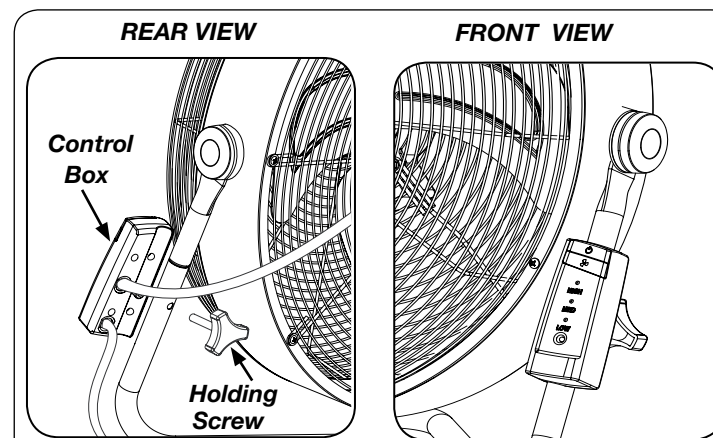

Figure 2
3. Remove the holding screw from the rear of the fan control box. (See Figure 2)
5. Insert the holding screw from the rear of the fan through the hole in the stand leg as shown.(Figure 2)